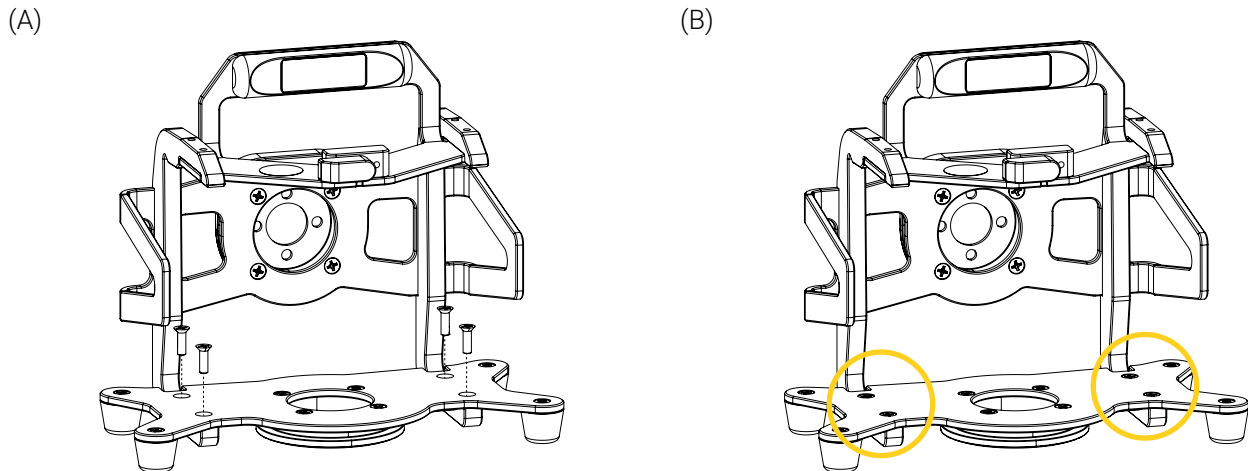

Figure 28: Installing the base plate screws
3. Align and insert the four (4) 10-32 X 3/4 in. L flat head screws in the screw holes of the base plate, then tighten them in alternation using a Phillips-head screwdriver #2, until the screw heads are leveled with the installation surface (Figure 28).